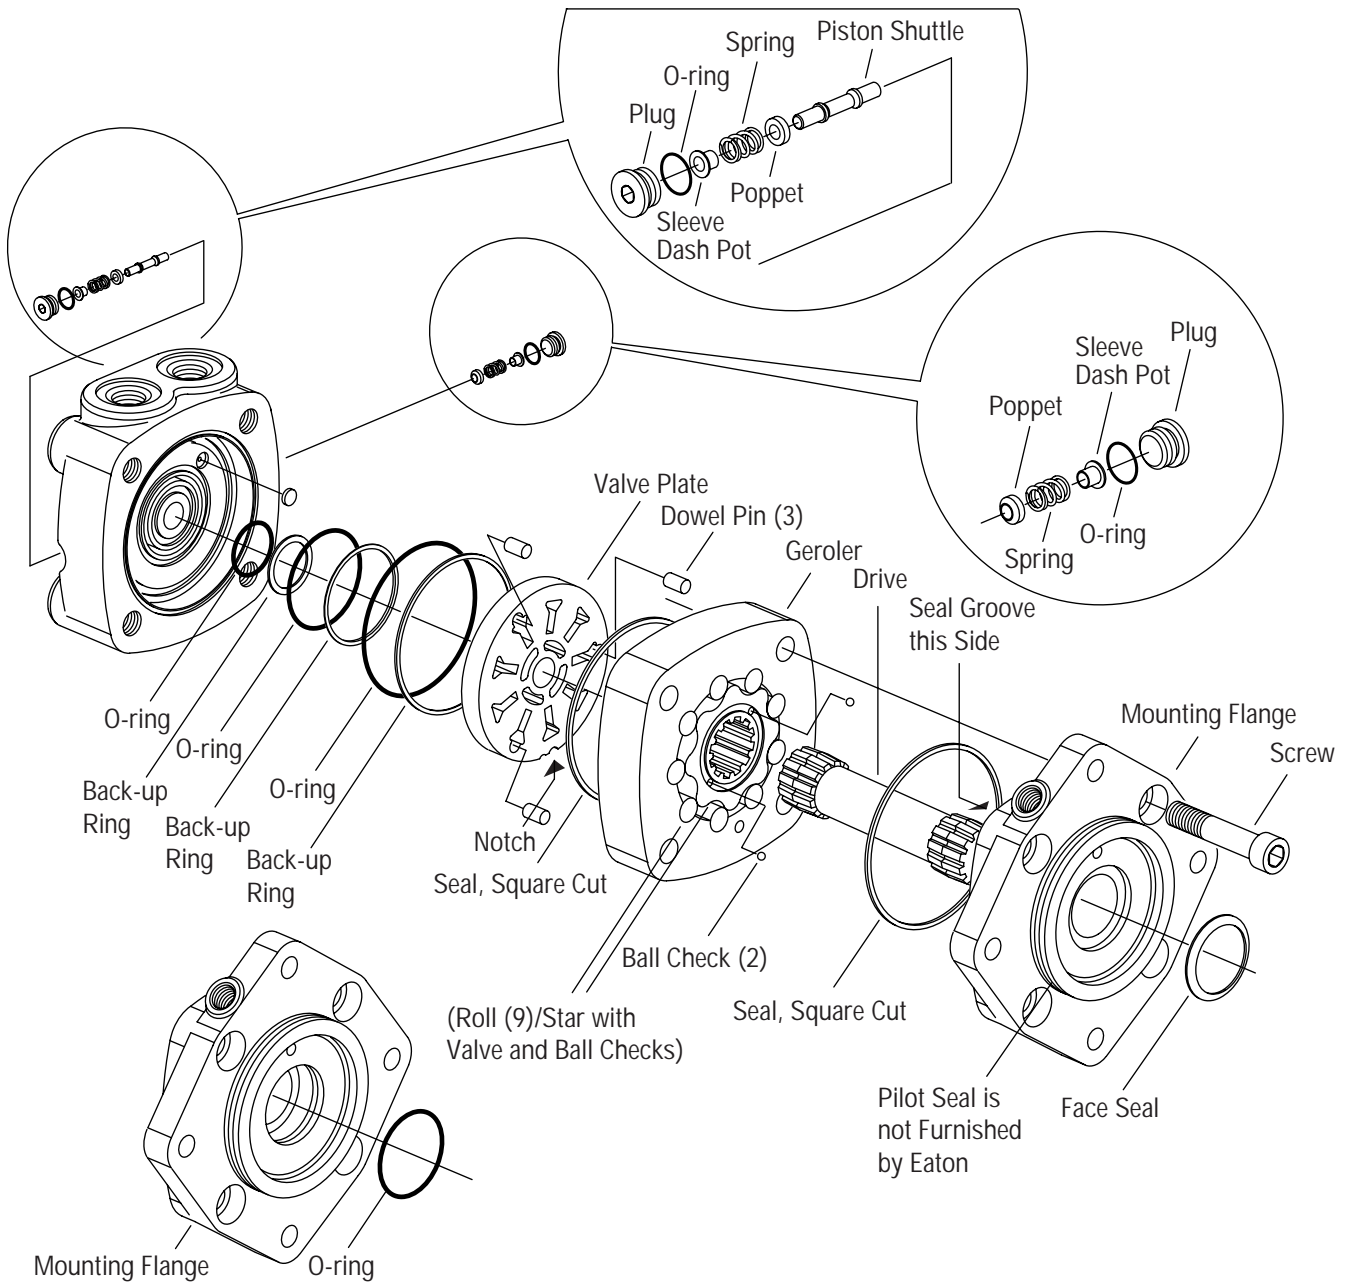

Figure 1
3 Remove the four cap screws and disassemble the motor as shown in Figure 1. Please note ball checks could possibly escape unnoticed.
5 Install a new o-ring (11,9 [4.7] ID) on each of the shuttle valve end plugs (2). Assemble shuttle valve parts as shown in Figure 1. Torque plugs to 41 Nm [360 lb-in].